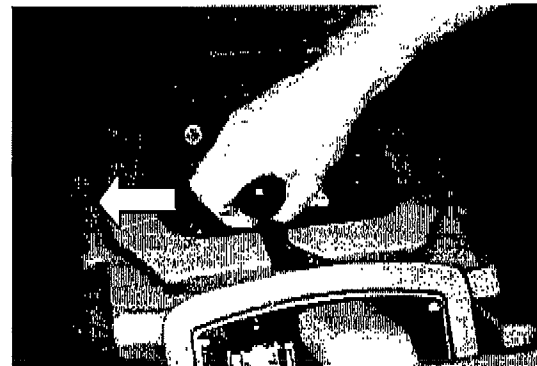

FIG. 7
2. Raise squeegee mount bracket by moving squeegee lift knob to the left (Figure 7).